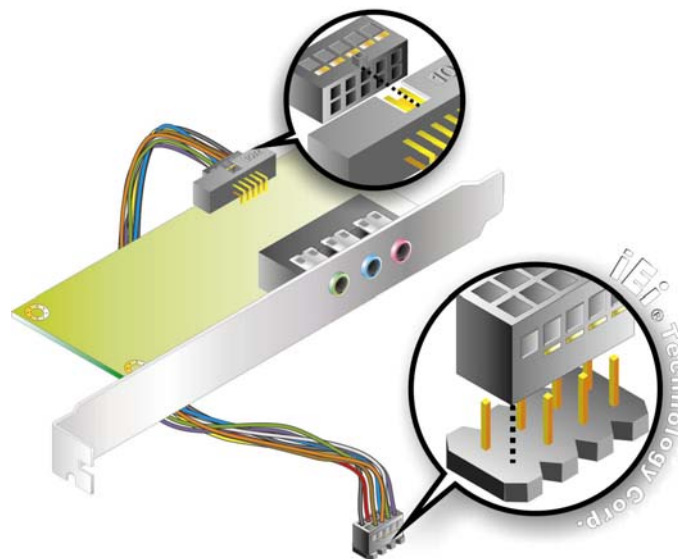

Figure 5-13: 5.1 Channel Audio Kit
- Step 3: Align pin 1.** Align pin 1 on the onboard connector with pin 1 on the audio kit cable connector. Pin 1 on the audio kit cable connector is indicated with a white dot. See **Figure 5-13**.
Step 3: Align pin 1. Align pin 1 on the onboard connector with pin 1 on the audio kit cable connector. Pin 1 on the audio kit cable connector is indicated with a white dot. See **Figure 5-13**.